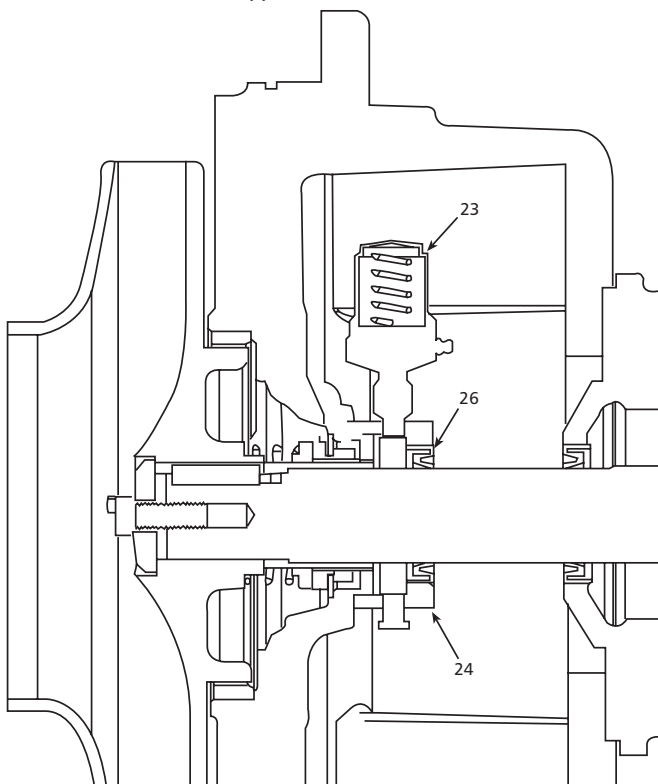

Figure 15
2. For grease feed applications, the grease gland is assembled with the “G” stamp in the 12 o’ clock position. The grease feeder (23) will mount in the grease gland at a 30 degree angle from the horizontal. This is done to gain access to the grease fitting located on the grease feeder. The lip seal (26) mounted in the grease gland will be assembled as shown in Figure 15.